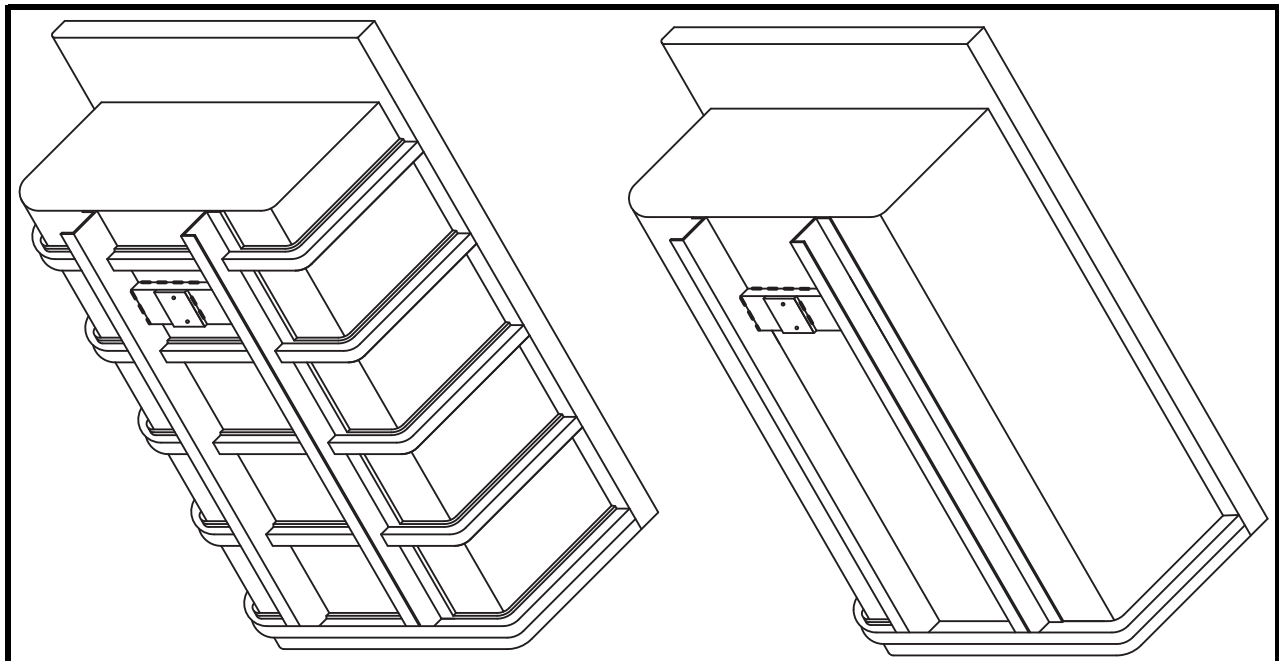

Figure 1. Steel Truck Box Reinforcement and Vibrator Mount
2. This is usually accomplished by positioning a piece of heavy wall channel between the two long frame rails in the front 1/3 of the dump body (refer to Figure 1 or 2).